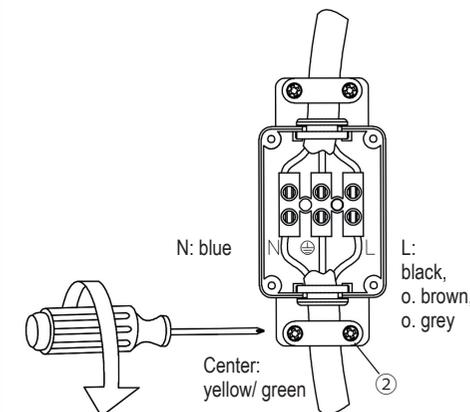

fig. 2
**fig. 2:** Disconnect the power supply for the connecting cable. Prepare the cable in according to statutory regulations. Connect the wires according the marks and and seal the cable properly. Fasten the strain relief ② with the 2 screws.